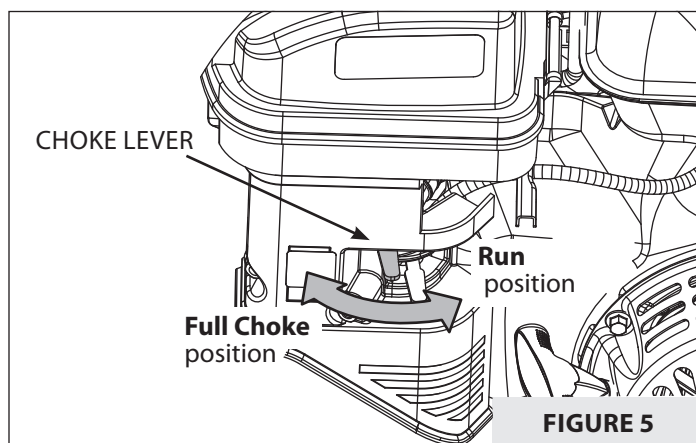

FIGURE 5
- If the engine is cold or the ambient temperature is low, move choke lever to the **FULL CHOKE** position. **SEE FIGURE 5.**
- If the engine is warm or the ambient temperature is high, move choke lever to the **RUN** position or 1/2 way between the **FULL CHOKE** and **RUN** positions. **SEE FIGURES 5.**
9. After engine begins operating, move choke lever 1/2 way between the **RUN** and **FULL CHOKE** positions. This position is considered the **HALF CHOKE** position. **SEE FIGURE 5.**
11. Once engine is warmed up, slowly move the choke lever to the **RUN** position. **SEE FIGURE 5.**